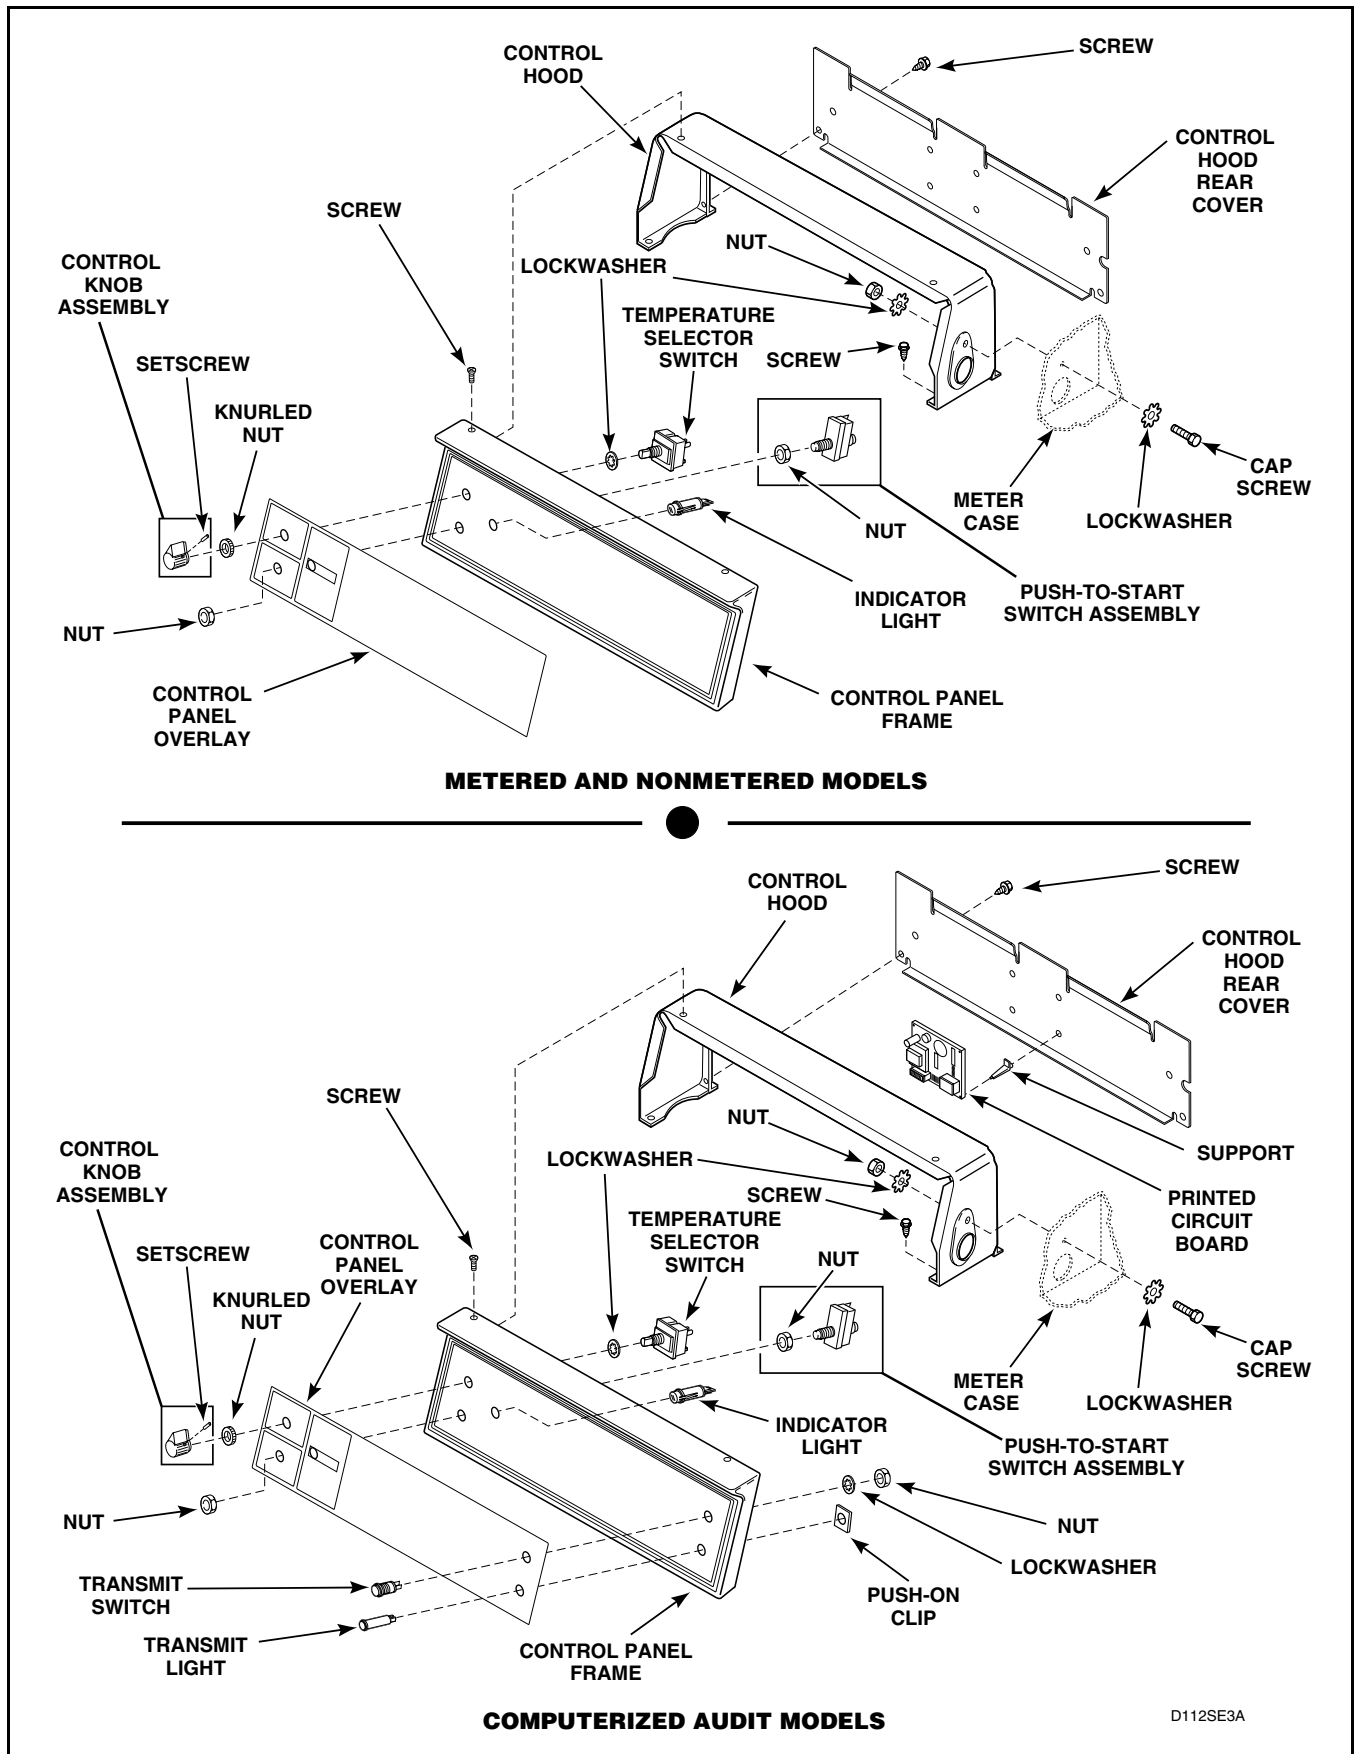

Figure 5
Refer to *Figure 5*
- Remove two control panel attaching screws and lay panel face down on protective padding on cabinet top. Refer to *Figure 5*.
(1)	L1 and 2	"zero" reading in NORMAL
(2)	L1 and 2	"zero" reading in PERMANENT PRESS
(3)	L1 and 1 L1 and 2	"zero" reading in DELICATE
- a. Remove two control panel attaching screws and lay panel face down on protective padding on cabinet top. Refer to *Figure 5*.
- (1) Remove four screws holding timer and plate to timer case.
- (2) Pull timer and plate out of timer case as far as wires will permit.
- d. Remove cap screw holding control hood to meter case. Refer to *Figure 5*.
- e. Remove two screws holding control hood to cabinet top and lift hood off rear tabs. Refer to *Figure 5*.
Refer to *Figure 5* for removal.